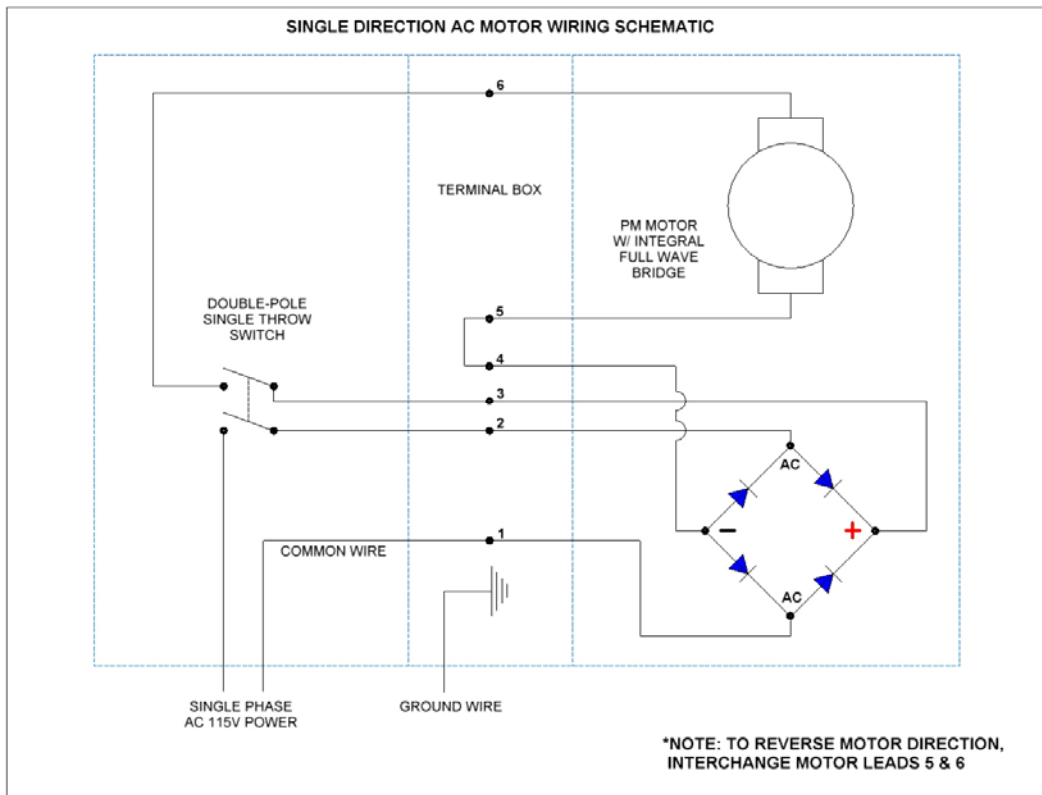

Figure 5: 115-VAC "EA" Motor Option, Single Direction
- Ensure power supply and motor voltage ratings are compatible. Refer to figures 5, 6, and 7 for wiring diagrams.